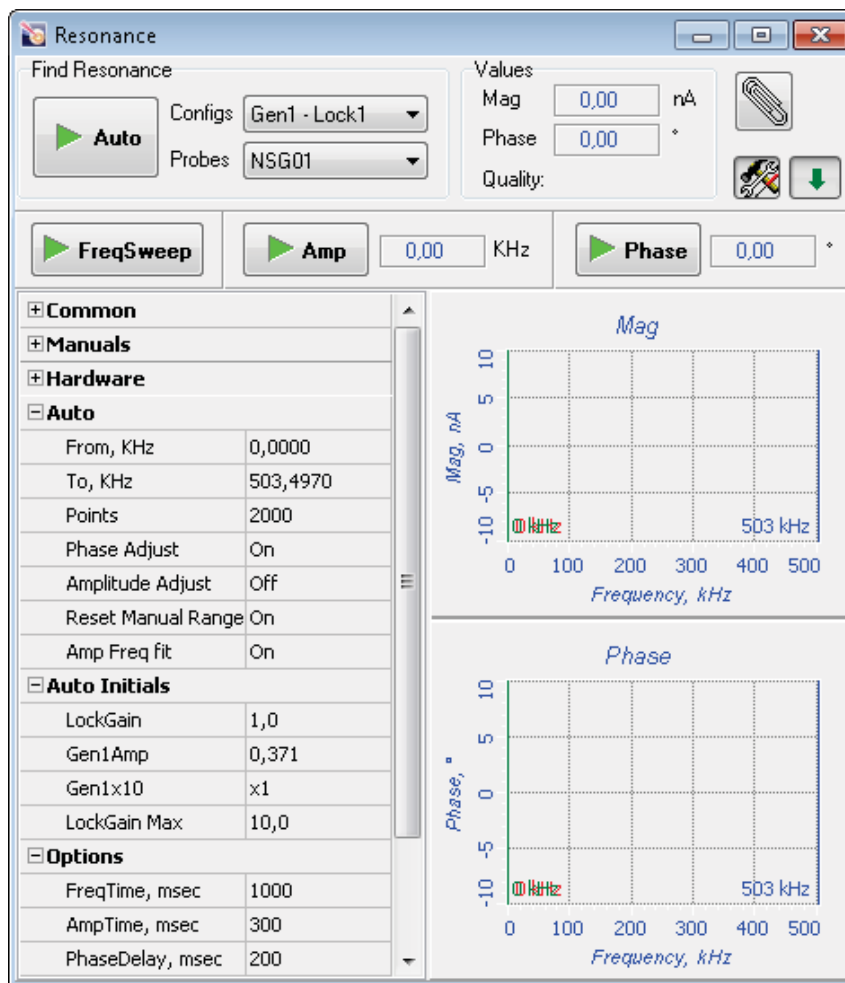

Fig. 8-2. Resonance window. Piezodrive adjustable parameters panel is opened
- c) Open the Frequency response parameters panel by clicking the  button (Fig. 8-2).
Parameters of the piezodrive operating frequency can be viewed and edited in the **Auto** group of the Frequency response parameters panel (opens by clicking the  button) (Fig. 8-2).
- To start automatic adjustment of the generator output parameters, click the  button in the **Find Resonance** panel (see Fig. 8-2). This will provide:
3. Open the Frequency response parameters panel (see Fig. 8-2) by clicking the  button in the Resonance window Control.
For automatic setting the predefined level of **Mag**, click the  button in the Additional adjustments panel (see Fig. 8-2, opens by clicking the  button). In automatic setting, the gain (**Lock Gain**) is adjusted first and then the generator output amplitude (**Gen1Amp**) is fitted. If the adjusted **Mag** level is not equal to the predefined one (possibly, due to discreteness of **Lock Gain** and **Gen1Amp**), repeat automatic adjustment by clicking the  button.